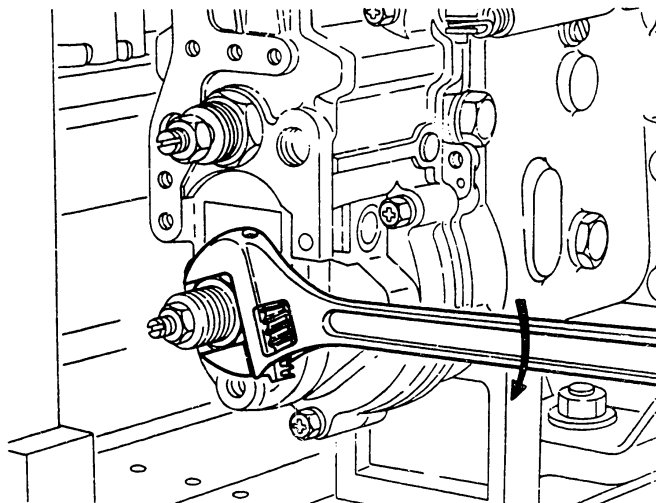

Fig. 141 Adjustment of the outer spring
- 1) Screw in the spring capsule (133) until the control rack is set to position  $R_b$  mm with the pump speed increased to  $N_a$  rpm, and then lock the nut (135). The outer idling spring is now set. (Fig. 141)